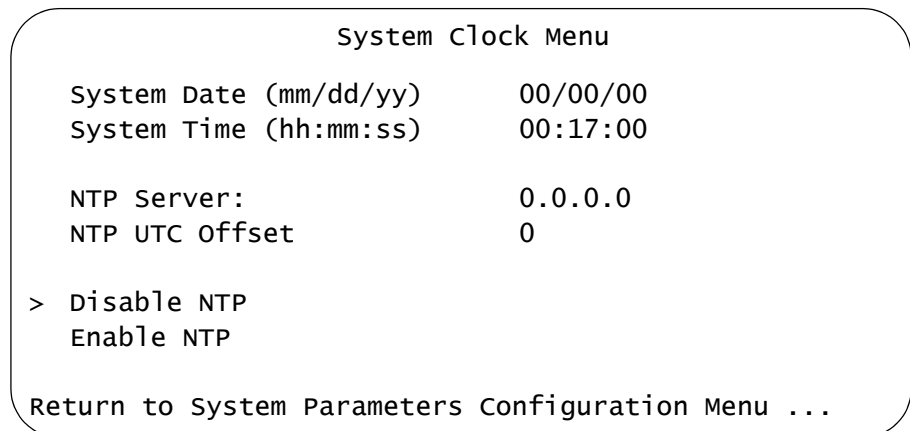

Figure 34. System Clock Menu
4. From the System Parameters Configuration Menu, select **System Clock Configuration** to display the menu in Figure 34.
4. From the System Configuration Menu, select **System Clock Configuration** to display the menu in Figure 34 on page 115.